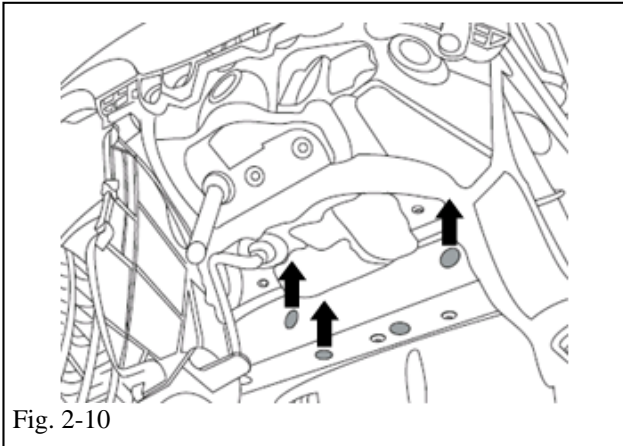

Fig. 2-10
- (j) Remove the three hole plugs from the LH chassis rail and discard them (Fig. 2-10).